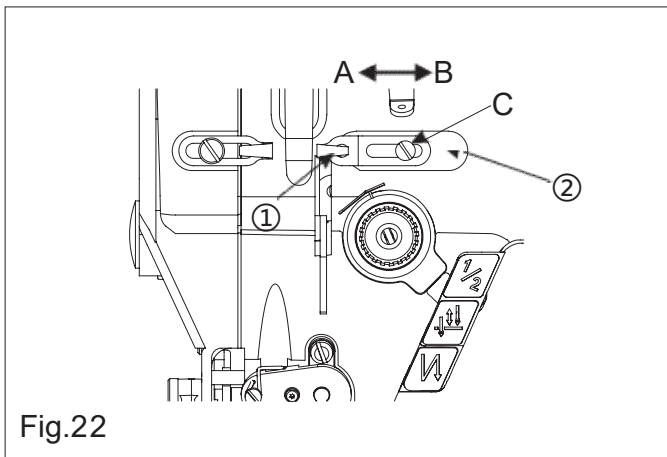

Fig.22
2. Depress the treadle to start sewing, when the reverse sewing switch ① is on during sewing, the feed will be reversed.
16. Adjusting the Take-up Amount of Take-up Lever (Fig.22)